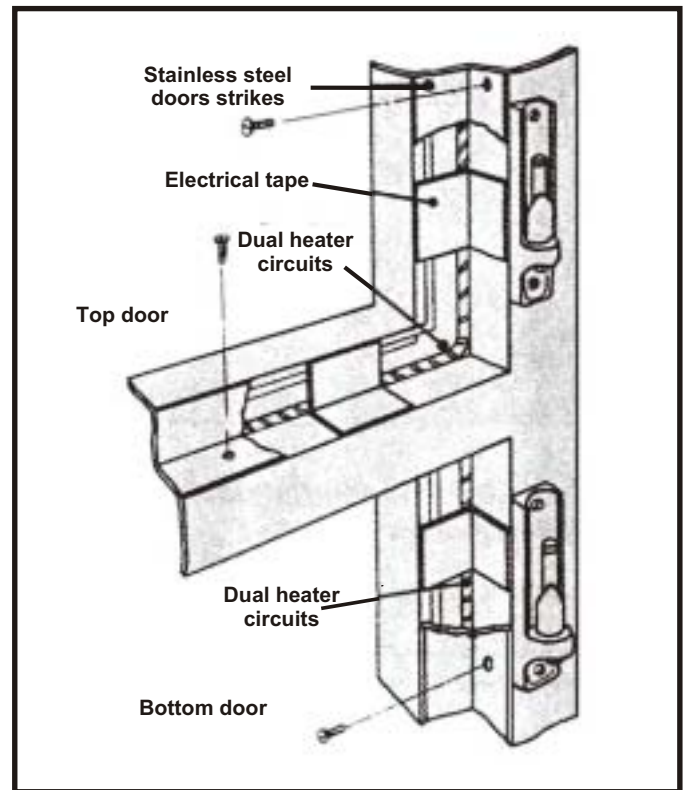

FIG. 12
- B. Remove the screws from the stainless steel door strikes around the door frame. Remove the strikes. See Fig. 12.
- E. Apply a small bead of silicone sealant around the perimeter of the door frame to retain the new heater element. Press the new heater element firmly into the corner around the perimeter of the door frame. The heater element may also be taped into position with UL-approved electrical tape. See Fig.12. Run the heater leads into the junction box.